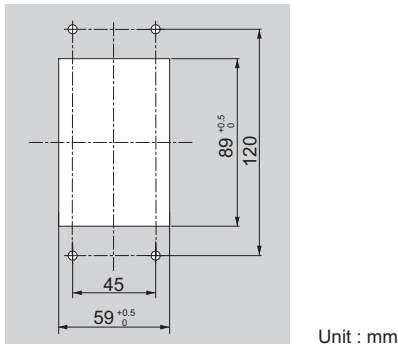

Figure 2.14 Panel Cut-Out Dimensions (Internal/Flush-Mount Installation)
- 1. Cut an opening in the enclosure panel for the digital operator as shown in Figure 2.14.